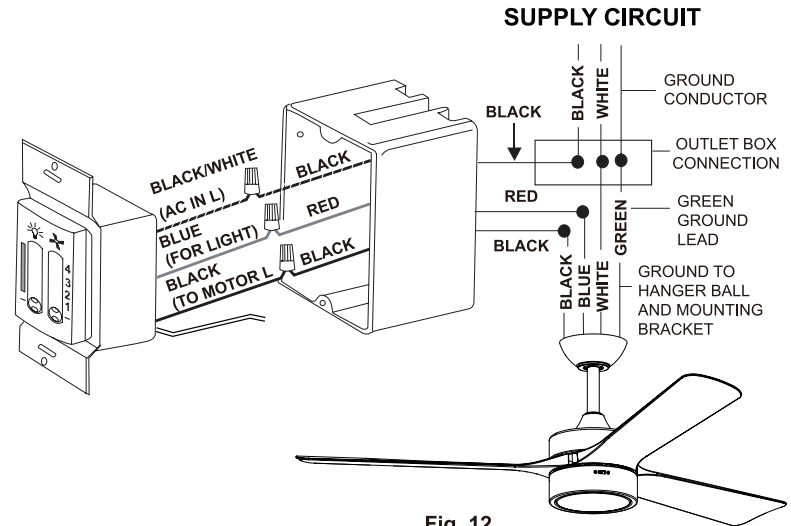

Fig. 12
Step 1. Set the knob of light on the wall control in the - position and set the knob of speed on the wall control in the - position. (Fig. 12)
Step 2. Make wire connections (Fig. 12) and secure with wire nuts supplied.
- Blue wire from fan to blue wire marked "for light" from light control through a red wire which is shown (Fig. 12). The red wire may be a different color depending on your location if your unsure please consult with a qualify electrician.